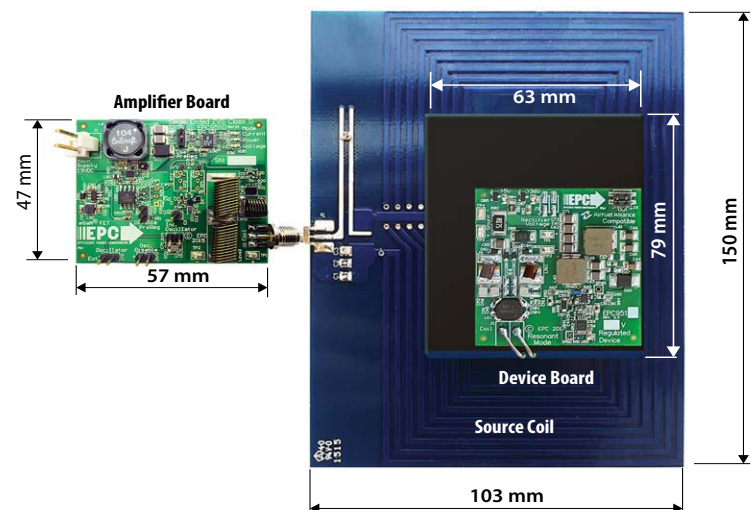
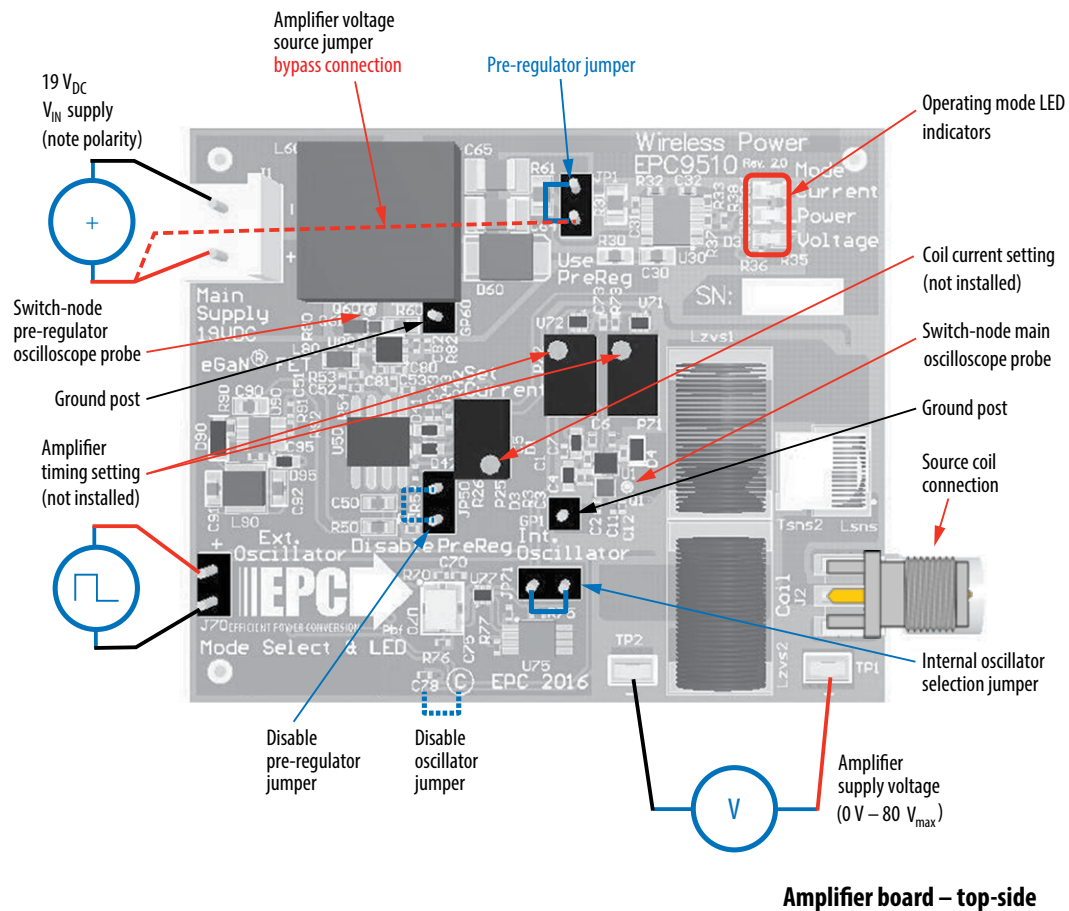

Figure 1: EPC9127 Demonstration System
Figure 6: Proper connection and measurement setup for the amplifier board
The EPC9127 wireless power system comprises the three boards (shown in figure 1) namely:
The assembly of the EPC9127 Wireless Demonstration kit is simple and shown in figure 1. The source coil and amplifier have been equipped with SMA connectors. The source coil is simply connected to the amplifier. The device board does not need to be mechanically attached to the source coil.
The EPC9127 demonstration system is easy to set up and evaluate the performance of the eGaN FET in a wireless power transfer application. Refer to figure 1 to assemble the system and figures 6 through 8 for proper connection and measurement setup before following the testing procedures.
2. With power off, connect the main input power supply bus to J1 as shown in figure 6. Note the polarity of the supply connector.
2. With power off, connect the main input power supply bus to the bottom pin of JP1 and the ground to the ground connection of J1 as shown in figure 6.